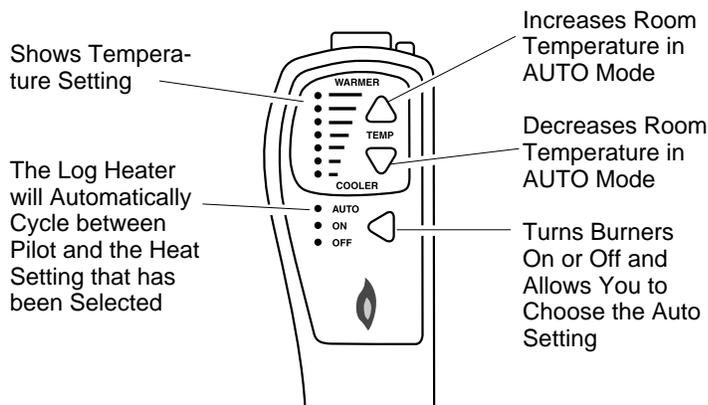

Figure 58 - Hand-Held Thermostat Remote Control Unit Selections (GHRCTA Only)
- Press the AUTO/ON/OFF button on the hand-held remote control (see Figure 58). The lights to the left of the button will show AUTO, ON, or OFF.